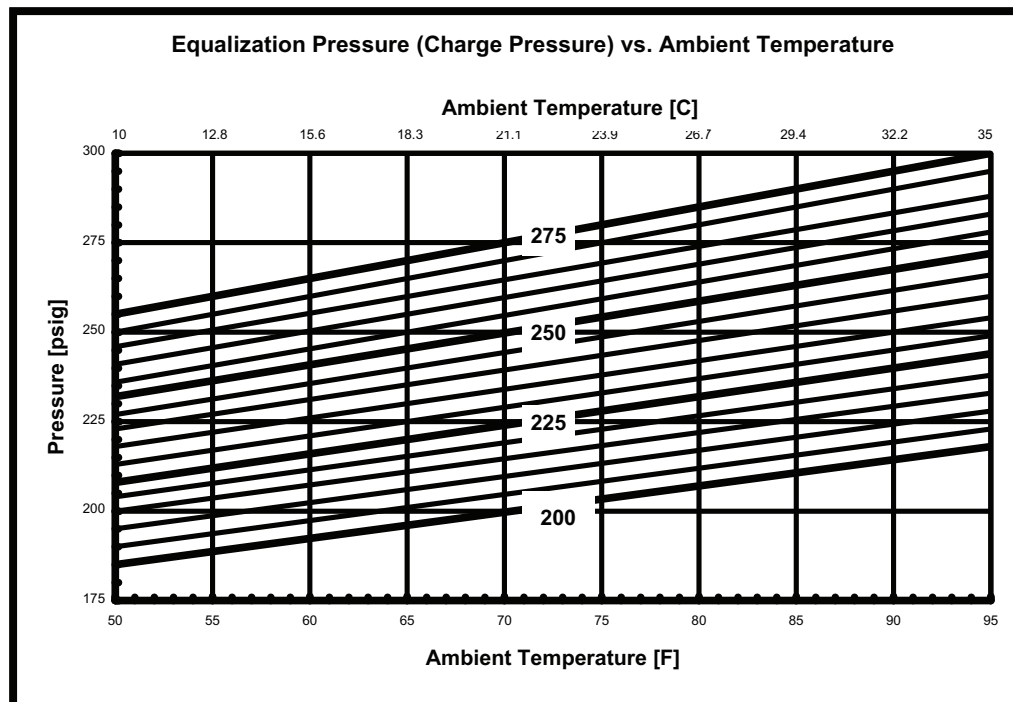

Figure 5-1: Equalization (Charge) Pressure vs. Ambient Temperature
Equalization (charge) pressure: See Figure 5-1 on page 5-3.
3. Check the pressure gauge mounted on the back of the compressor. The pressure should be within the ranges shown on Figure 5-1 on page 5-3, Table 5-1 on page 5-4, and Table 5-2 on page 5-4. If the equipment has recently been moved from an area where the temperature differs greatly from the present area, allow the components to equalize to the new room temperature before verifying correct charge pressure. If the pressure is not within the ranges, contact the nearest Brooks Global Customer Support.
6. After all the components are connected, verify that the charge pressure is correct by checking the pressure gauge mounted on the back of the compressor. Account for ambient temperature by referring to Figure 5-1 on page 5-3.